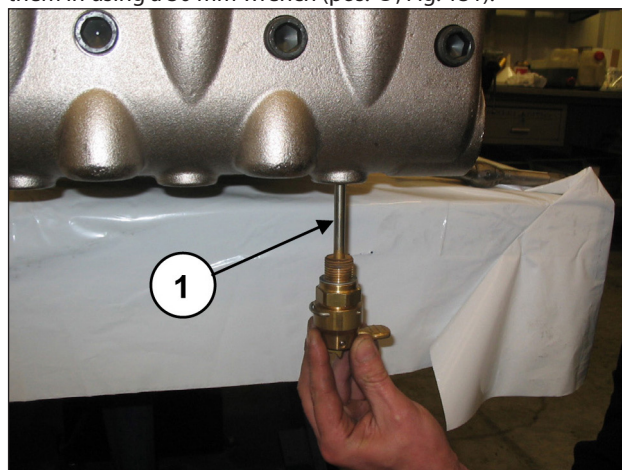
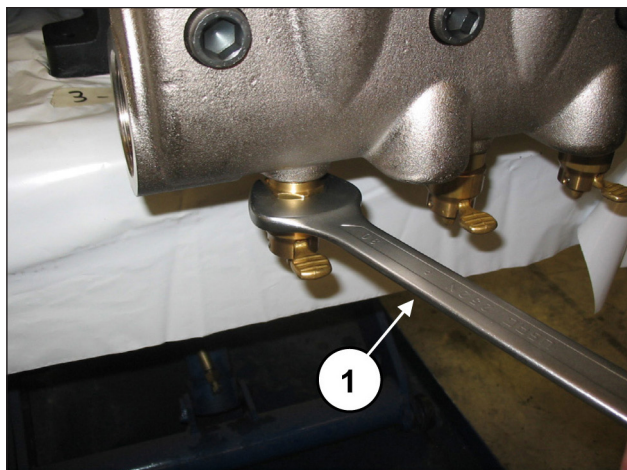

Fig. 130
Fig. 131
Apply the valve opening devices (pos. ①, Fig. 130) and screw them in using a 30 mm wrench (pos. ①, Fig. 131).